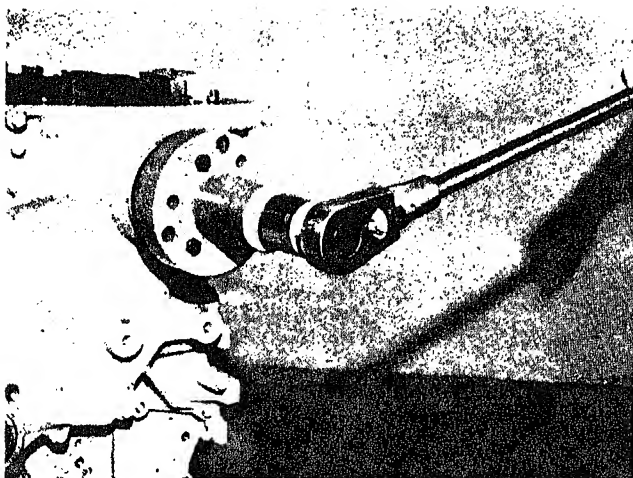

Fig. 0-46. Pulling crankshaft hub with Puller N20023
4. Using Puller, pull hub from crankshaft, Fig. 0-46.